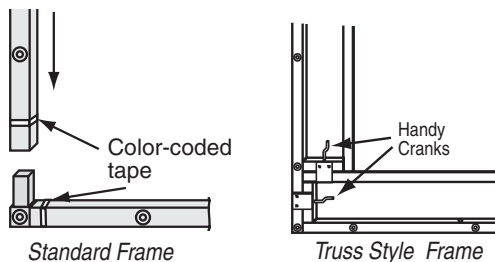

Figure 1
- ① Lay out frame pieces on floor, by matching up color-coded tape near corners. Snaps should be facing up.
- ② Assemble frame (see Fig. 1). If necessary gently tap frame ends with a rubber mallet to make sure castings are fully seated.
- ① Unfold and lay out pieces on floor, by matching up color coded marks. Lock all hinges (see Fig. 1). Snaps should be facing up.
- ② To increase frame rigidity, hinges on top and bottom sections have rivnuts marked with red and green. Insert a Handy Crank through the threadless rivnut (red) and tighten into the threaded rivnut (green).
- ③ Apply small sections marked "Stiffener Bars" to back of bottom frame section, using 8 Handy Cranks. These eliminate sag on large suspended frames. Failure to use all Handy Cranks may result in screen frame damage. Turn bottom frame section over so snaps face up.
- ④ Repeat step 3 for top frame section.
- ⑤ Join top and bottom sections to Stage Left and Stage Right, using 2 Handy Cranks on each of the 4 corners. Match numbers on white labels.